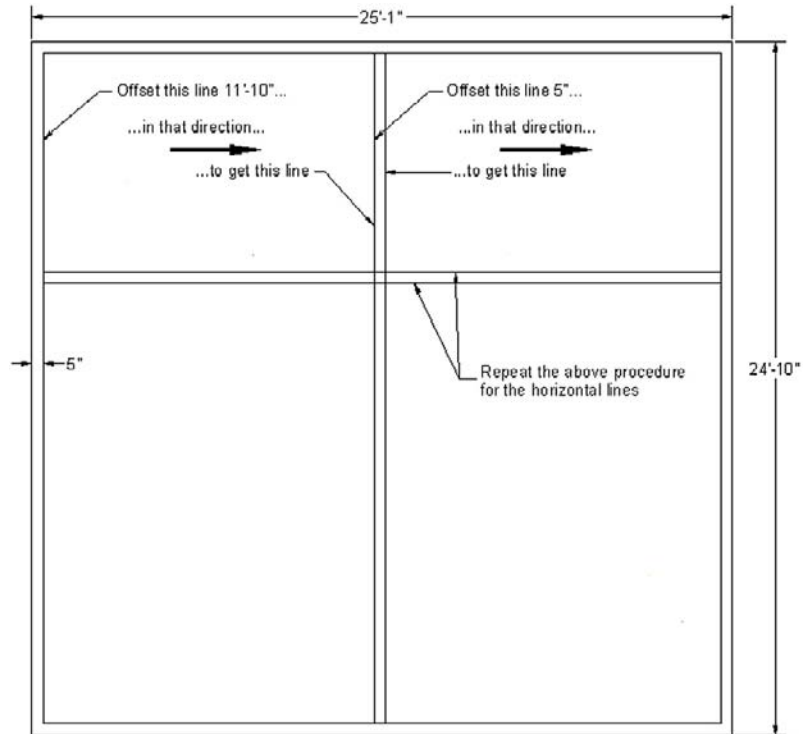

FIGURE 3.13
8. Offset the inner left vertical wall 11'-10" to the right to create part of the kitchen wall. Then right away offset 5" for the thickness of the wall. Repeat with the inner top horizontal wall (offset 7'-10") to get the lower part of the kitchen. Offset 5" to the right for thickness. Figure 3.13 illustrates this graphically.